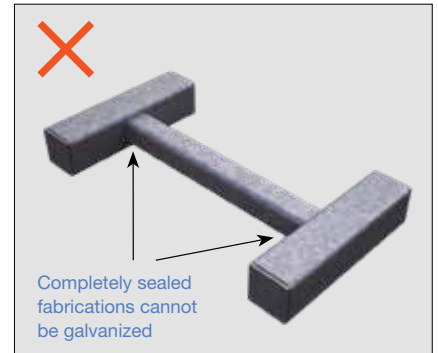

Figure 14: Closed Hollow Sections – Unsatisfactory
Figure 14 to Figure 24 show basic design practices to ensure articles are able to be successfully galvanized and a quality hot dip galvanized coating is achieved, while others may need a significant amount of venting and draining. Generally, the more complex the hollow fabrication, the longer the immersion and withdrawal time due to the need for changes in the flow direction (e.g., corners or tees) or changes in the cross-sectional area (e.g., diameter) the zinc flows through. In these cases, more or larger holes than the minimum recommendations should be considered to help increase flow rates, allowing decreased dipping times and better quality.
- Internal vent holes must be at least 50% of the connecting section. It is recommended they be the same size as the internal diameter of the connecting section where practical. See Figures 14 and 18.